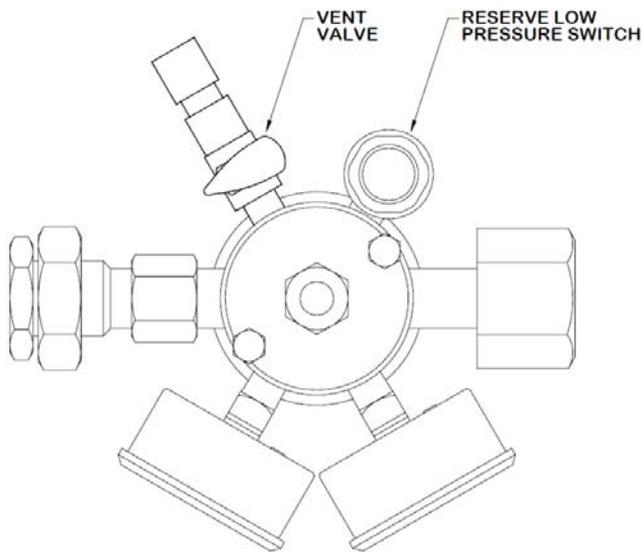

Fig D-2. Reserve Header Regulator, Vent Valve and Reserve Low Pressure Switch
2. After pressurizing the header close the air cylinder valve and slightly open the vent valve located on the back of the regulator (Fig. D-2) and allow a small flow of air through the regulator and valve.
3. After pressurizing the piping, slightly open the vent valve located on the back of the regulator (Fig. D-2) and allow a small flow of air through the header.
2. Slightly open the vent valve located on the back of the regulator (Fig. D-2) and allow a small flow of air through the header.